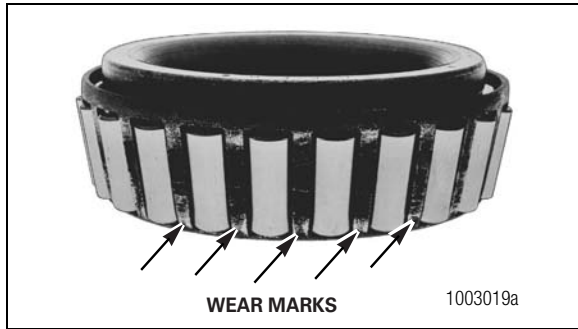

Figure 4.3
- You can see bright wear marks on the outer surface of the roller cage. Figure 4.3.